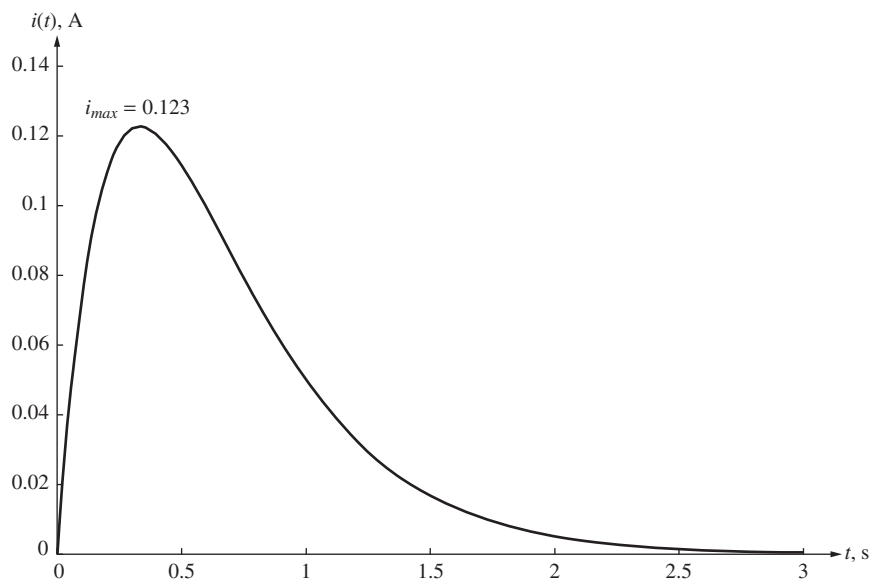

Figure 8.23 Approximate sketch of the current waveform for example 8-7.
- (c) Since the voltage is proportional to the derivative of the current, the slope of the current is zero when the voltage is zero. Therefore, the current $i(t)$ is maximum ($i_{\max} = 0.123 \text{ A}$) at $t = 1/3$ s. Also, at $t = 0$, $i(0) = 0 \text{ A}$. Using these values along with the values of the current at $t = 1 \text{ s}$ ($i(1\text{s}) = 0.0498 \text{ A}$) and at $t = 2 \text{ s}$ ($i(2\text{s}) = 0.00496 \text{ A}$), the approximate sketch of the current can be drawn as shown in Fig. 8.23. Note that $i = 0.123 \text{ A}$ **must** be a maximum (as opposed to a minimum) value, since it is the only location of zero slope and is greater than the values of $i(t)$ at either $t = 0$ or $t = 2 \text{ s}$. Hence, no second derivative test is required!